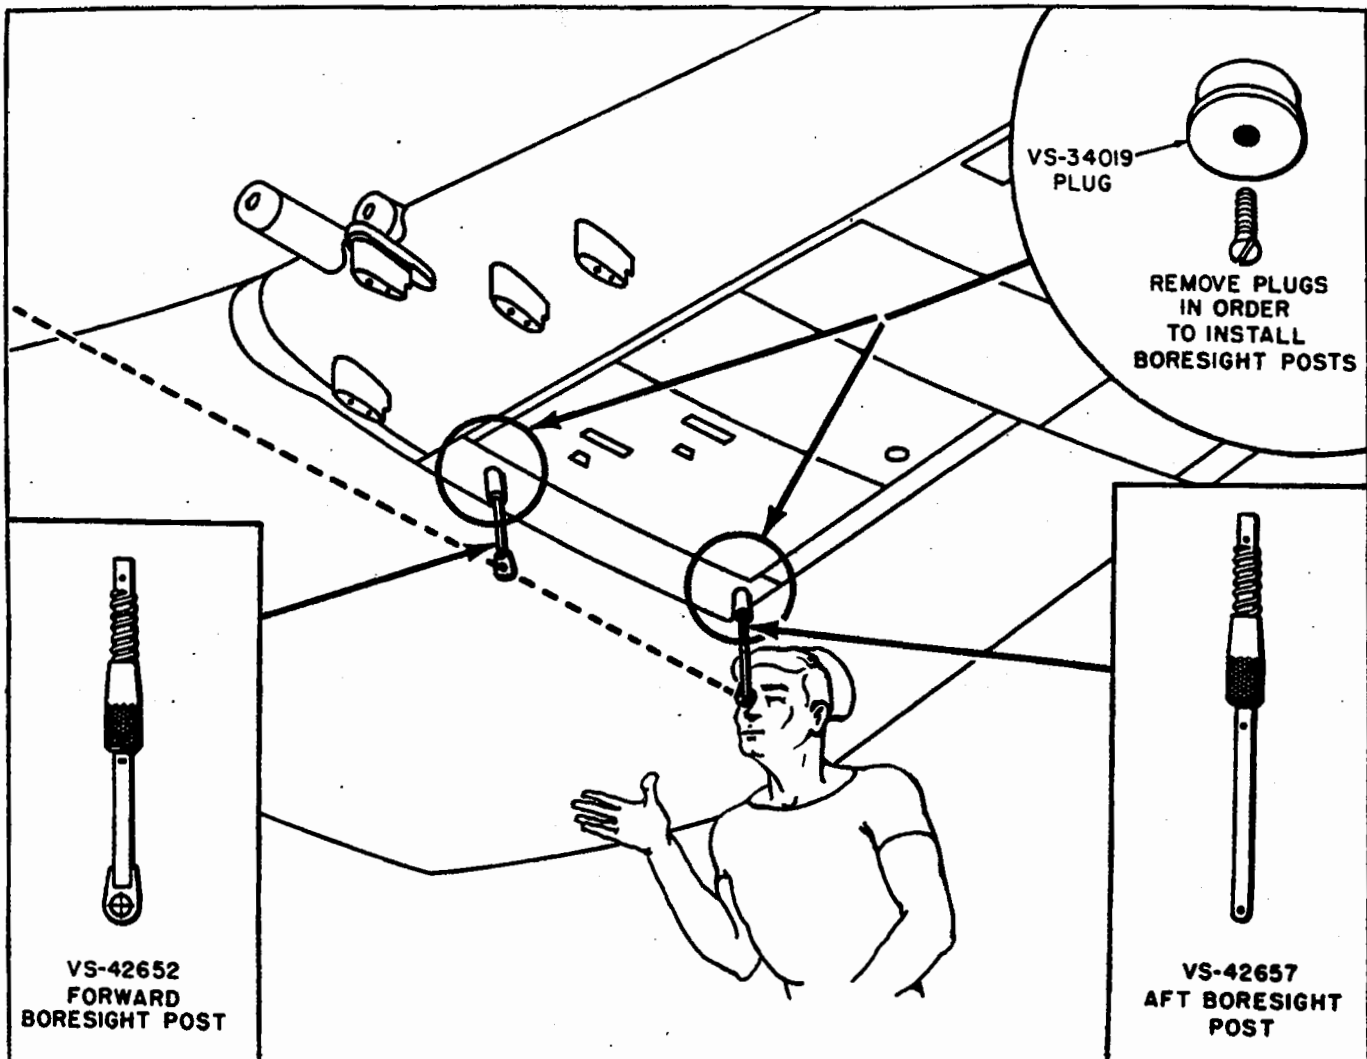

Figure 4-155. Installation and Use of Boresight Posts.
c. Remove the two plugs from the two boresight post receptacle holes in each panel, just outboard of the wing fold line on the under surface, one near the main beam and the other near the outboard flap hinge. Insert front and rear posts (VS-42652 and VS-42657 respectively) into forward and aft holes as far as they will go, rotating each so that the cross hairs on the forward post and the peep hole on the aft post are facing the target; see figure 4-155.